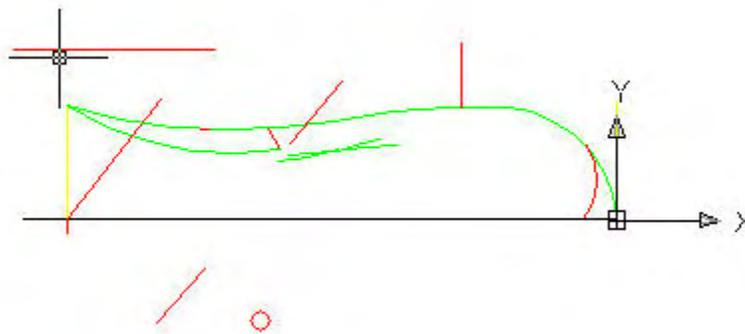

FIGURE 4.1.0
4.1 Can you relate to what is shown in Figure 4.1.0 compared to what was stated in section 3.0?